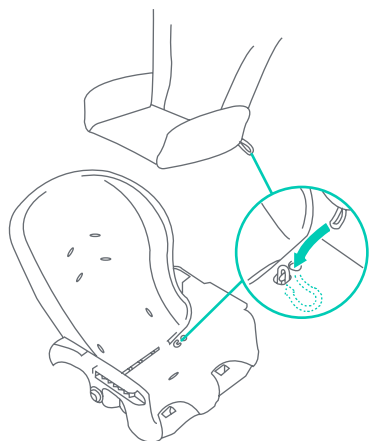

Fig. 22a
22) • Attach the bottom of Seat Pad to the Seat Base with the two Elastic loops located at the rear of the bottom of the Seat Pad. These fit over the Attachment Tabs located on the Seat Base near where the Seat Back and Seat Base Join (Fig. 22a).